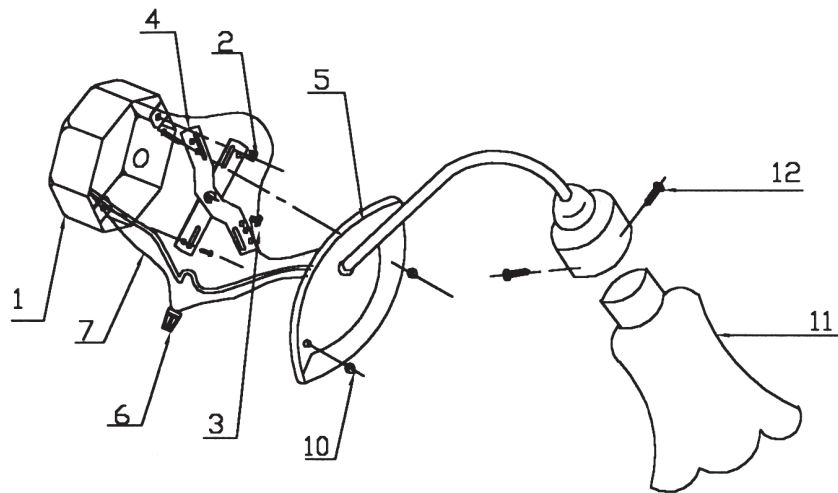
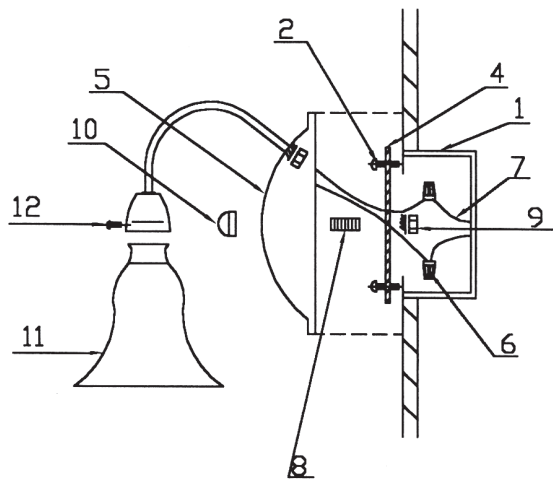

FIG2
FIG3
2. If your fixture is supplied with a threaded nipple (see Fig3), screw the nipple into the coverplate and mounting bracket and lock into place with a hexagon lock nut. If your fixture is supplied with machine screw (see Fig2), thread the machine screw into the mounting bracket, lock the machine screws into place with lock nuts.
3. Fasten the mounting bracket to the outlet box using the two screws supplied with the outlet box. If your fixture is supplied with a channel shape mounting bracket with keyhole slots for attachment to the mounting surface (see Fig2), it will be necessary to mark the location of the keyhole slots on the mounting surface and drill holes for fasteners (not provided). Use fasteners suitable for the mounting surface. The narrow end of the keyhole slot should face up.